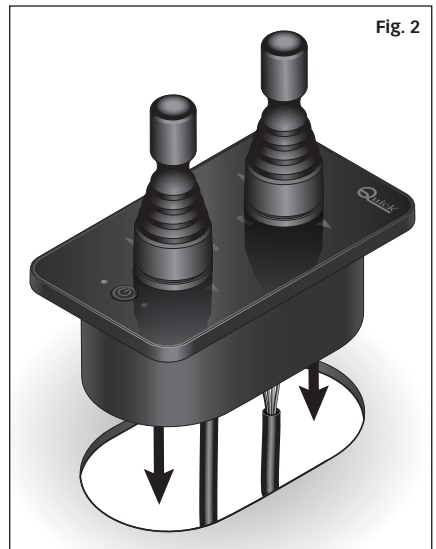

Fig. 2
- (Fig. 2) Insert the control into the hole and press it to make it adhere well to the surface.